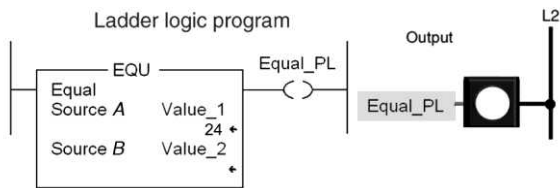

Figure 15-44 EQU instruction rung for question 5.
5. For the EQU instruction rung shown in Figure 15-44, what value(s) stored in Source B would make the instruction logically true? 5. _____